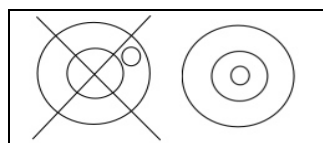

fig 9
- Reattach the indicator to the bracket. Remove the plastic cover and connect the cable connector. (fig. 9 and 10)